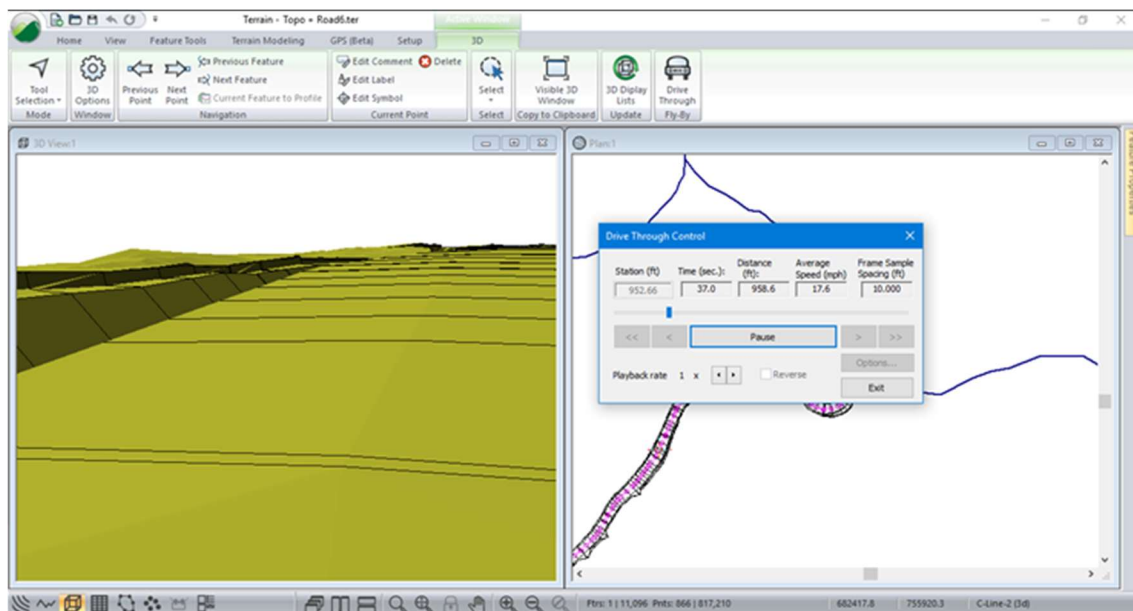

Figure 23-9: Drive Through/Fly By Sample
7. Press **Play** to begin the drive through, a sample of which can be seen below in Figure 23-9.